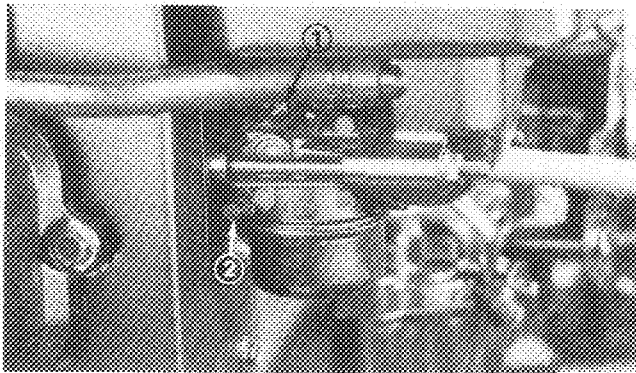

Figure 20
1. Idle Fuel Screw (Fig. 20) — Close screw by gently rotating it clockwise.
2. Rotate — open — the screw 1 turn counterclockwise (Fig. 20).
4. Idle Speed Screw (Fig. 20) — Set the idle speed to $1200 \text{ rpm} \pm 75 \text{ RPM}$ by turning the idle speed screw in or out. Check speed with a tachometer.
5. Idle Fuel Screw (Fig. 20) — With throttle in slow position, turn screw out (counterclockwise) until the engine speed decreases (rich). Note position of the screw.